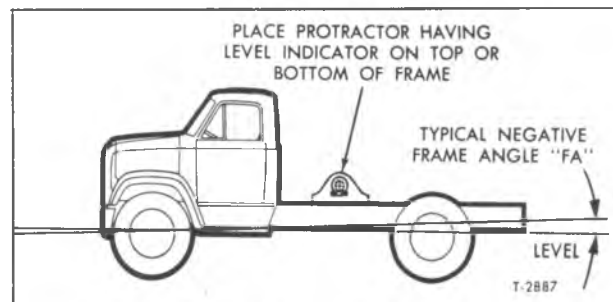

Figure 2—Method of Checking Frame Angle
IMPORTANT: Caster, camber, and toe-in dimensions are for vehicle carrying its design load whereby the frame in most instances would be level. If alignment check is to be made with frame NOT LEVEL the frame angle (fig. 2) must be determined and added to the caster angle to obtain a true caster reading.
2. Using a bubble protractor, measure the frame angle (FA). See figure 2. Frame angle is the degree of tilt in the frame from the level position. Negative frame angle is when the frame is high (above level) in the rear. Positive frame angle is when the frame is low (below level) in the rear.
4. Add the frame angle (FA) found in step 2 to the left wheel caster reading found in step 3 to determine the "corrected caster" for left wheel.